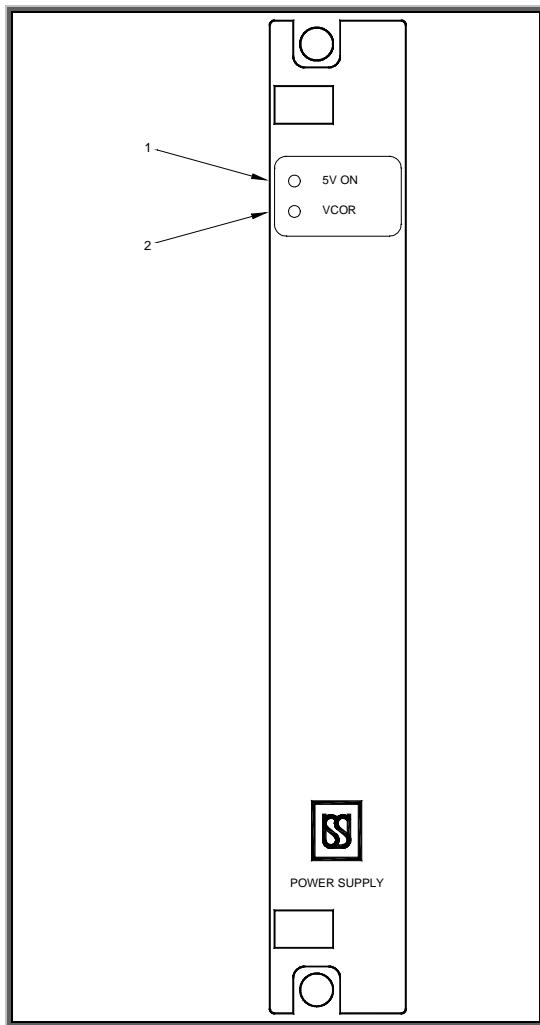

Figure-2.2
2.2 POWER SUPPLY PRINTED CIRCUIT BOARD (Refer Figure-2.2)